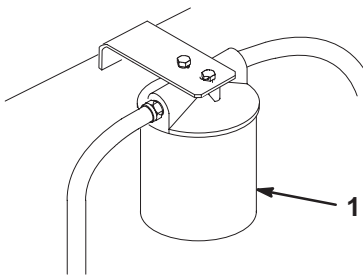

Figure 44
3. Place drain pan under filter, remove the old filter and wipe the filter adapter gasket surface clean (Fig. 44).